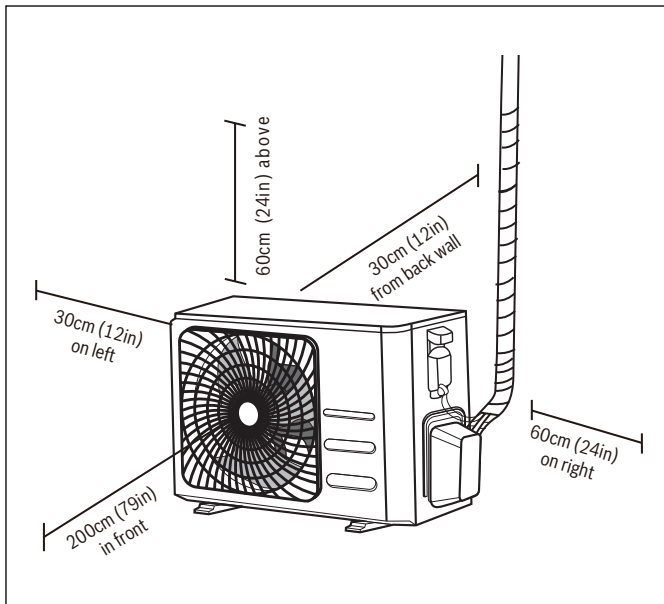

Figure 41
- ▶ If the unit is exposed to heavy wind: Install unit so that air outlet fan is at a 90° angle to the direction of the wind. If needed, build a barrier in front of the unit to protect it from extremely heavy winds. See Figures 41 and 42.